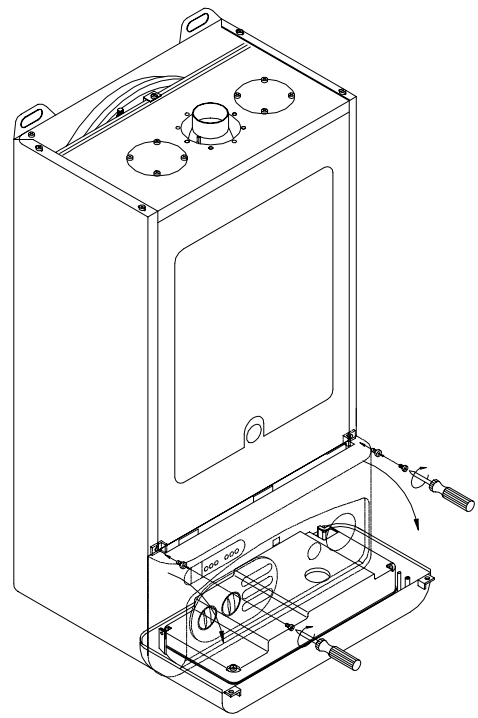

Fig. 1
- C. Undo the two screws on the panel and turn it to the position shown in fig.1 (pos. 1).
- D. After pulling the panel downwards, undo the screws on the housing and open the small rear panel plate as shown in the figure 1.
- Connect the yellow/green wire to the terminal marked with the earth symbol " \perp " (see fig.1).
LEGEND (see fig. 1)